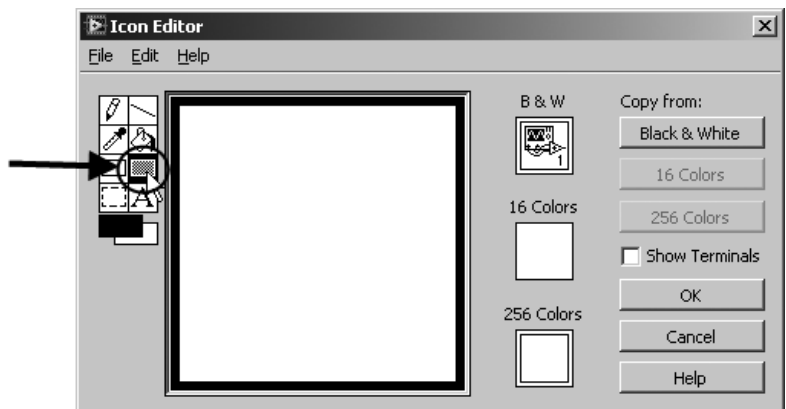

Figure 5.16
1. Double-click the Filled Rectangle tool to draw a solid black border (foreground) around a solid white background, as shown in Figure 5.16.